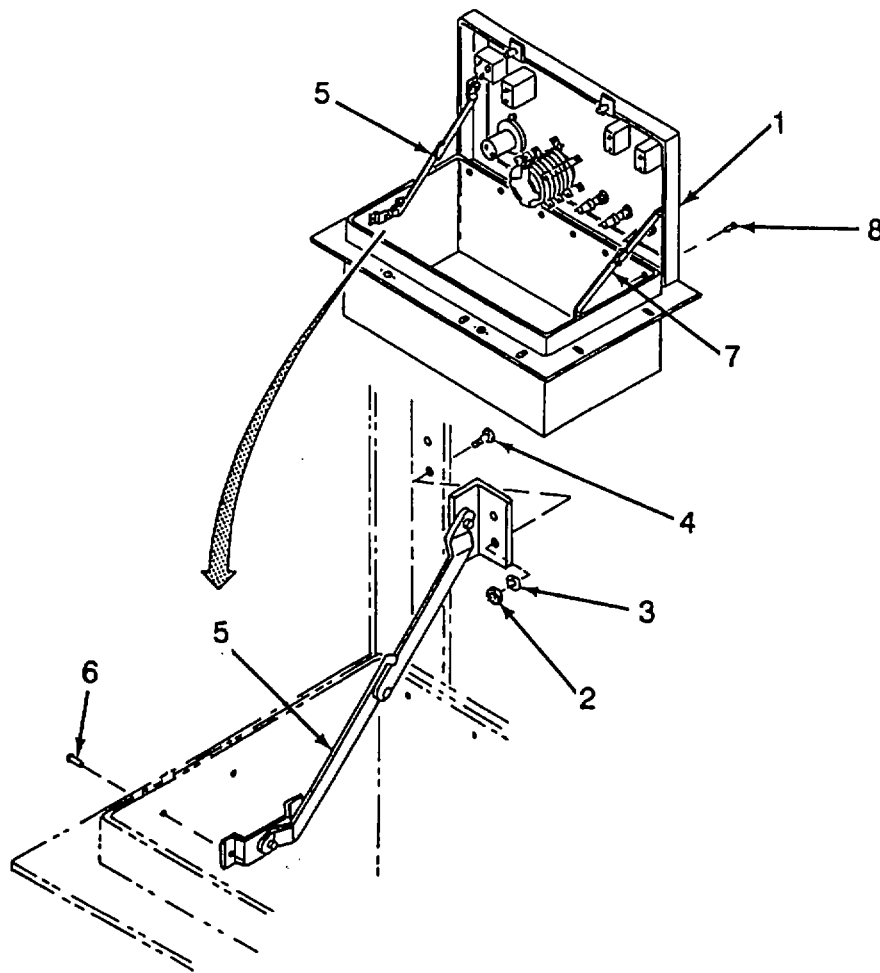

Figure 5-3. Control Box Disassembly (Sheet 1 of 2)
- b. Disassembly - continued. (Refer to Figure 5-3)
- (6) Drill out six rivets (9) and remove hinge (10).
- (7) Drill out eight rivets (11) and remove control panel plate (12).
- (8) Remove two stud retaining rings (13), two studs (14), two retaining rings (15) and two grommets (16).
- (9) Remove two gaskets (17) and two gaskets (18).